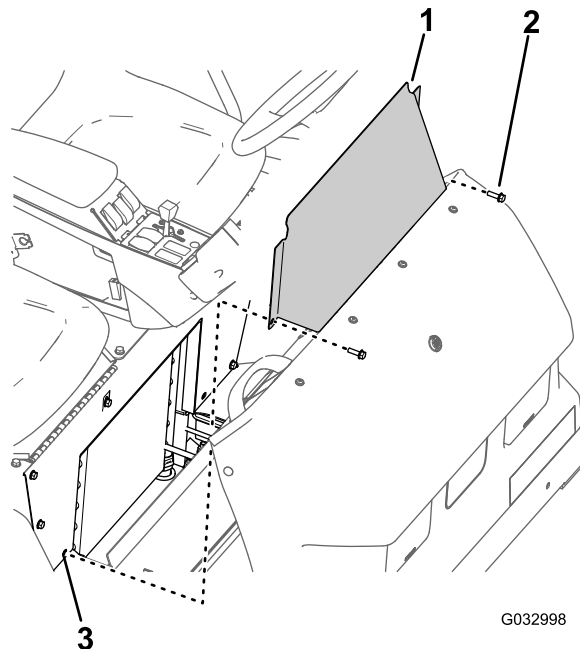

Figure 61
1. Remove the 2 flanged-head bolts that secure the seat-base-access panel to the seat base (Figure 61).
2. Remove the seat-base-access panel from the machine (Figure 61).
1. Align the holes in the seat-base-access panel with the holes in the seat base (Figure 61).
2. Assemble the seat-base-access panel to the seat base with the 2 flanged-head bolts (Figure 61) that you removed in step 1 of Removing the Seat-Base-Access Panel (page 51).